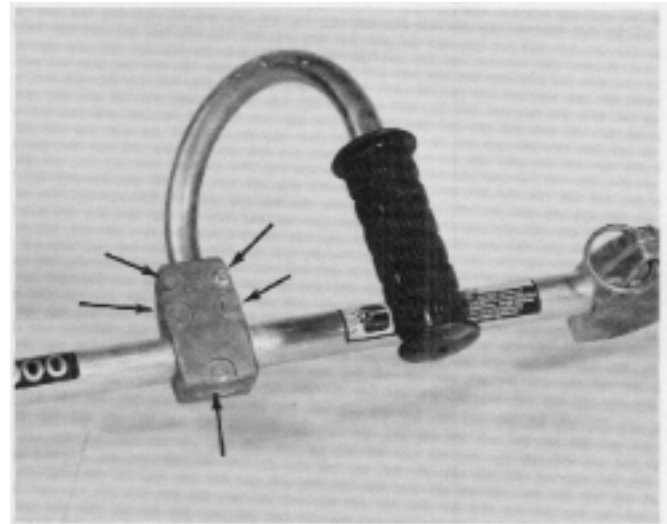
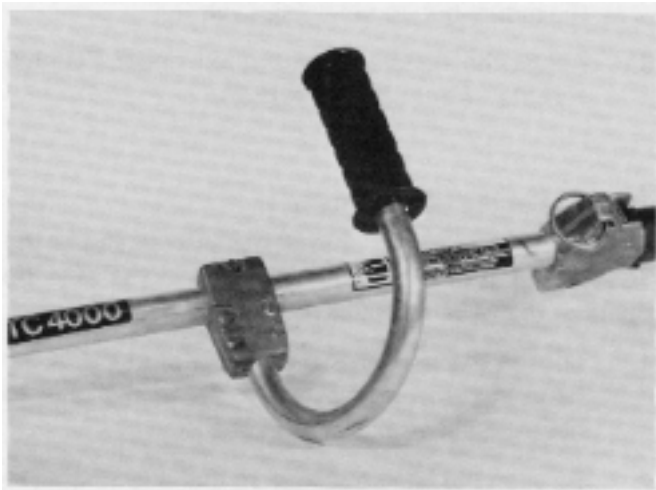

Figure 114
Figure 116
1. Loosen the five machine screws securing the two handle mount halves. See Figure 114.
Note: The mounting configuration shown in Figure 114 is most suitable for right handed operators. Left handed operators may find it more comfortable if the mounting halves are installed as shown in Figure 116.